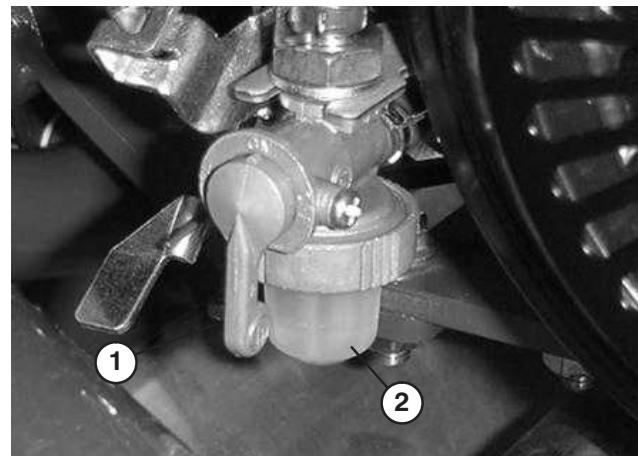

Figure 34
- Close fuel shut off valve and unscrew bowl from filter body (Fig. 34).